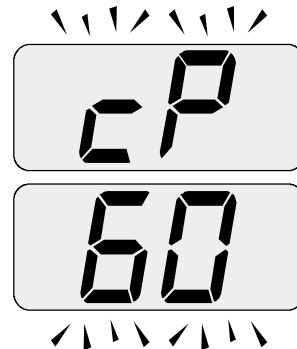

Fig. 11.8
- 19 Press key A to vary the output in chimney sweep mode: when the display shows the letters **cP** that alternate with the heating water temperature value (e.g. **60**), the "chimney sweep function" is at maximum output in heating mode (Fig. 11.8);